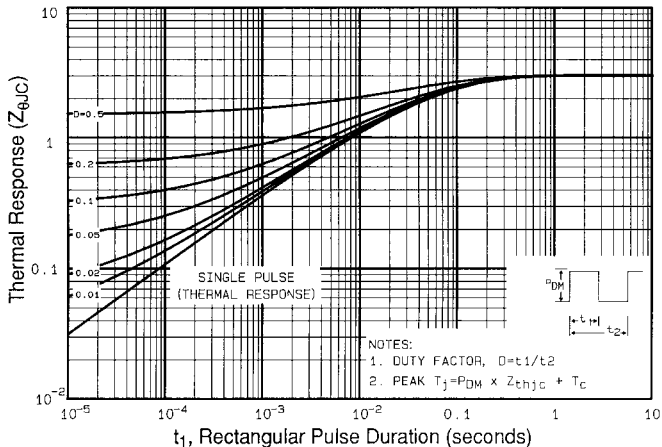

Fig 11. Maximum Effective Transient Thermal Impedance, Junction-to-Case
① Repetitive rating; pulse width limited by max. junction temperature (See Figure 11)
③ I_{SD}≤9.2A, di/dt≤110A/μs, V_{DD}≤V_{(BR)DSS}, T_J≤150°C